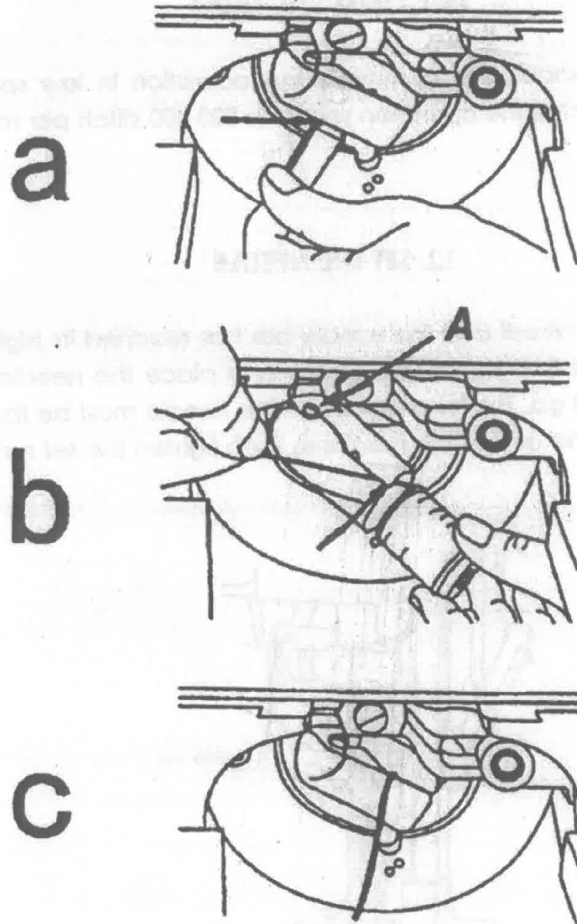

Fig.8
13.1 Rotate the balance wheel bringing the needle bar to its lowest position. Then with the curved part of the shuttle cylinder opener, which should conform to the curve of the shuttle, as shown in Fig.8 a, insert the small end of shuttle cylinder opener into slot in the spring latch under the shuttle cylinder.
13.2 Hold the bobbin between the thumb and index finger of the left hand, at the same time the thread is drawing off from the underside toward the right as shown in Fig.8 b. Place the bobbin in the cylinder as far as it will go, draw the thread in the slot in the cylinder and under the tension spring, then into the delivery eye, then push the cylinder back until it is locked by the spring latch, and allow about 3 inches of thread to hang free from the shuttle so that it can be drawn up through the throat plate.